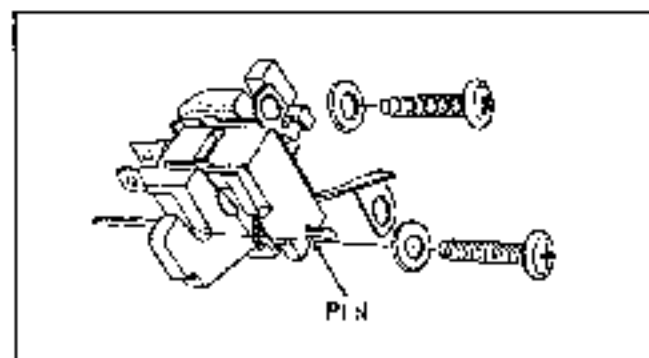

Fig. 6E-15 Brush Holder
8. Attach brush holder into end frame, noting carefully stack-up of parts as shown in Fig. 6E-15. Allow wood or toothpick to protrude through hole in end frame and install stator lead to strap attaching nut and washer.